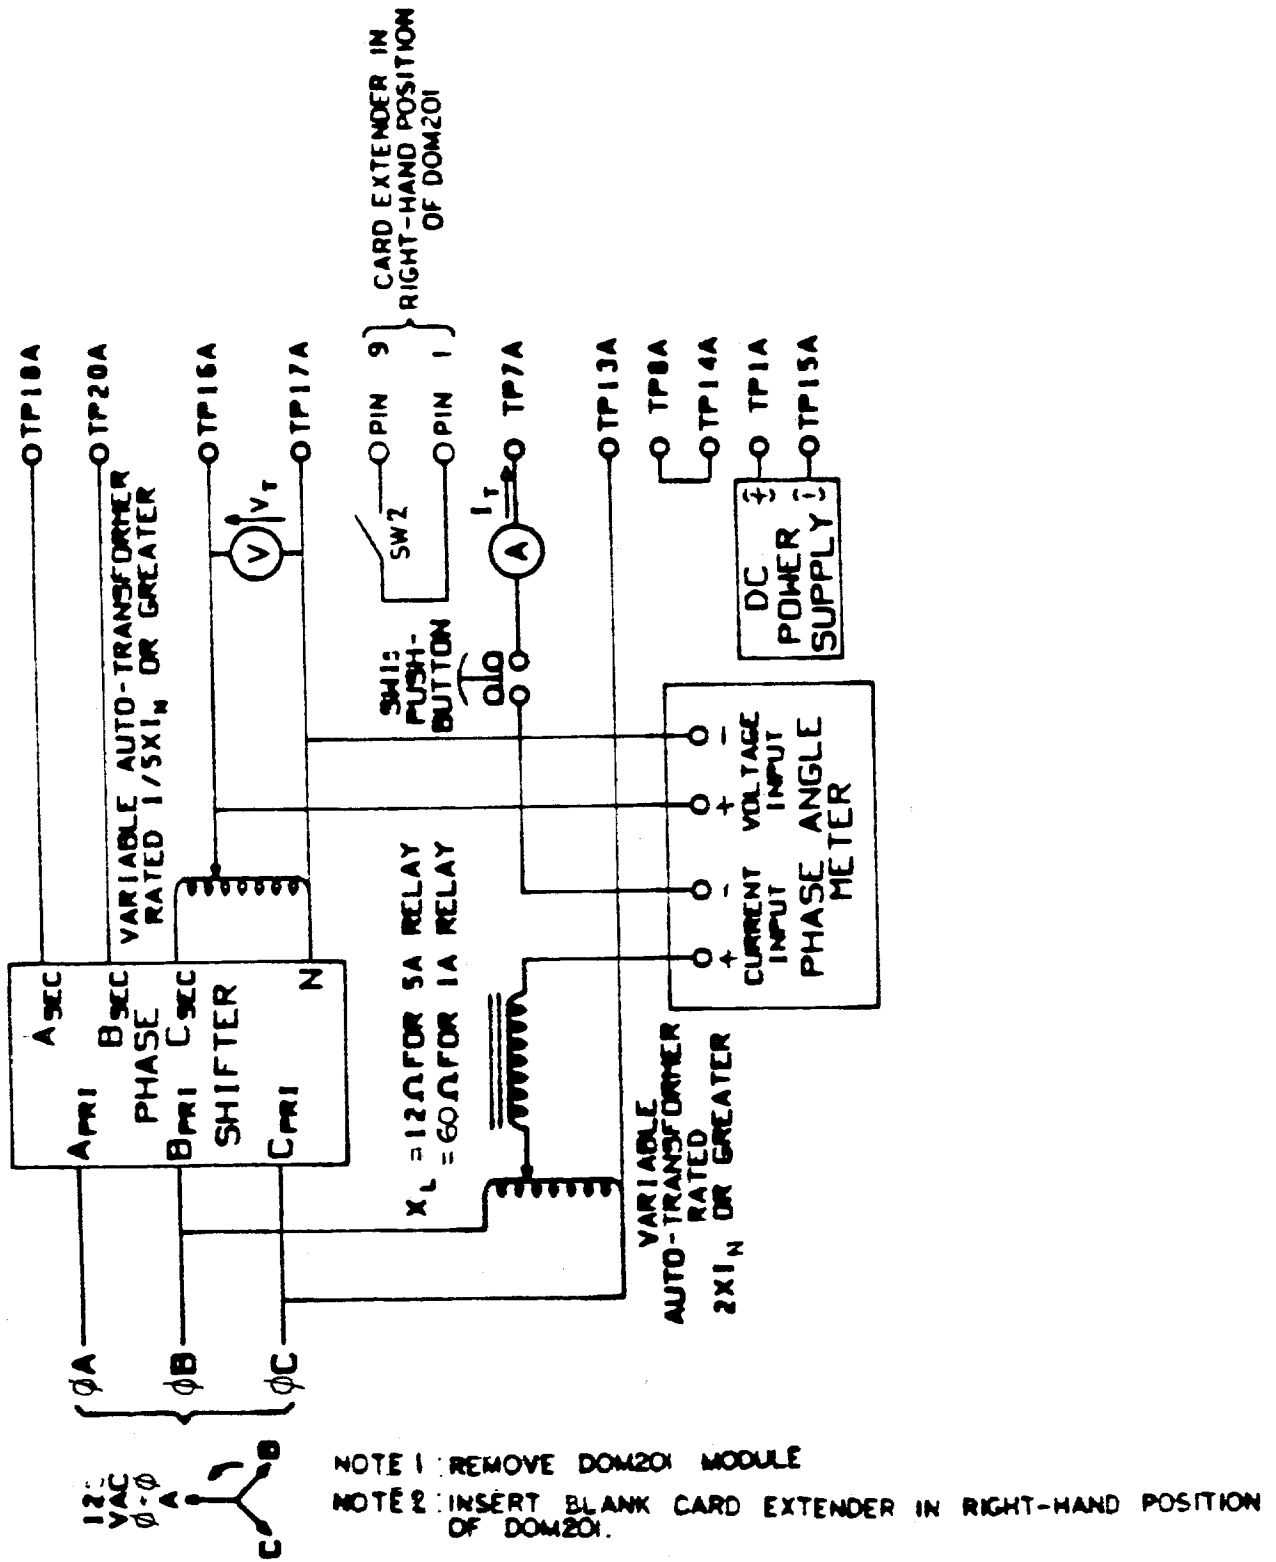

Fig. 2 (0285A8107-0) Test Circuit for Post-Installation Zone One Extension Tests
Post-Installation Test - Fig. 2 of this booklet.
- Fig. 2 (0285A8107-0) Test Circuit for Post-Installation Zone One Extension Tests